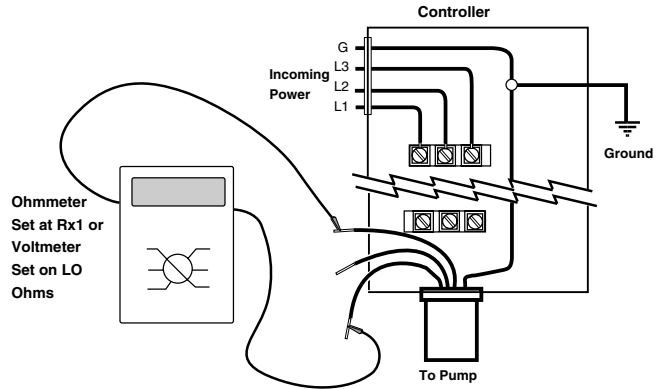

Figure 14 - Circuit (Winding) Resistance Test
2. Attach two ohmmeter leads to pairs of cable wires in turn (black and red wires on three wire single phase units). Compare readings with data provided in motor manual (Figure 14).